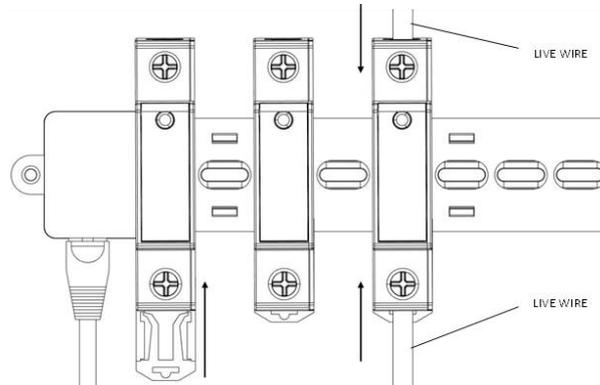

Figure 3 Wire connection of EBQ tags
3. Places the labeled and setup EBQ tags on the din rail(s), then connect the live wires to the tags and Ethernet cable from EBQ master to the din rail(s) as shown in Figure 3.